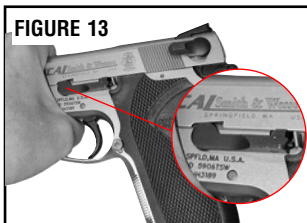

FIGURE 13
- Pull the slide backwards until the slide stop notch in the left side of the slide is aligned with the forward, rounded portion of the slide stop as shown in Figure 13. Firmly grasp the frame and slide with the left hand. Press inward on the slide stop pin (Figure 14) from the opposite side of the frame and remove the slide stop.